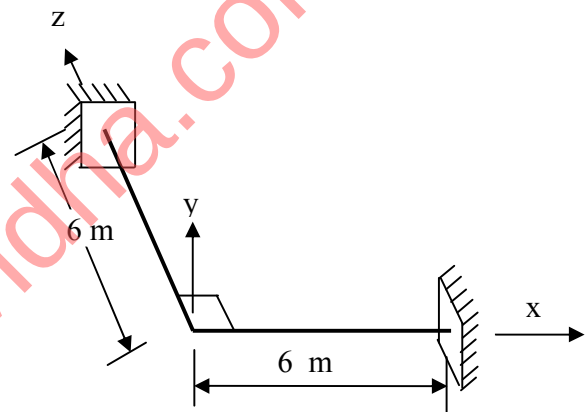

Fig.4 Q-4(a) OR
- Q-4 (a) Formulate rearranged SJ matrix for the grid shown in the fig.4. 07